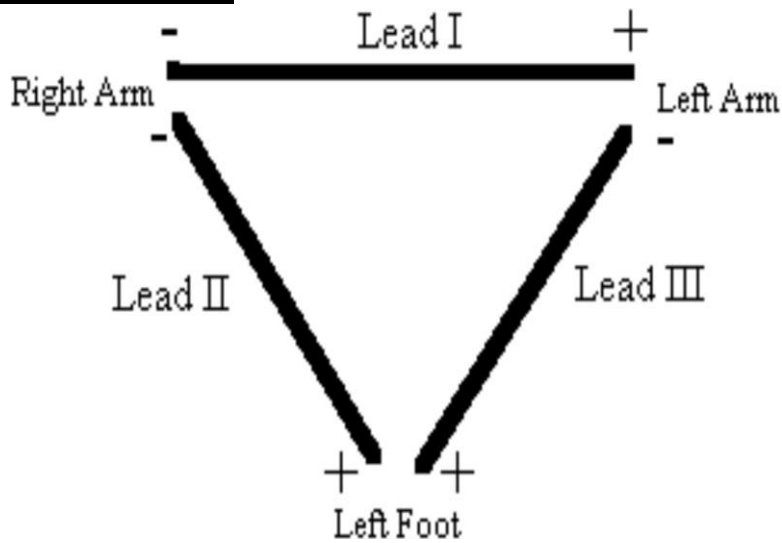

Fig 17: Einthoven's triangle
- The triangle's sides represent the individual bipolar limb leads and the signs determine the polarity of the electrodes (figure 17).